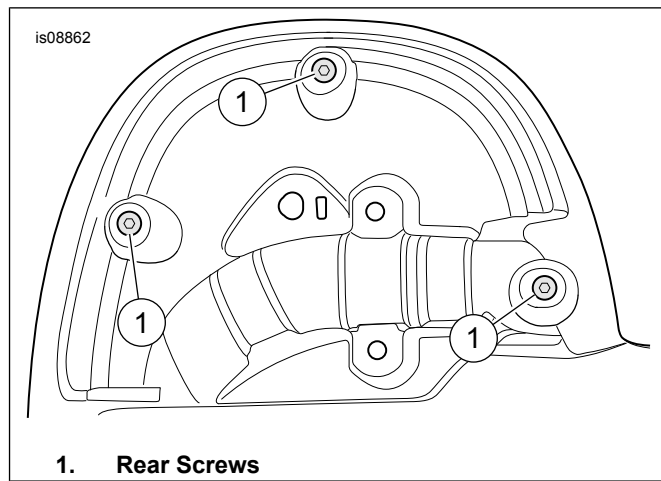

Figure 1. Rear Screws
1. See Figure 1. From the back of one fairing, remove rear screws (1).